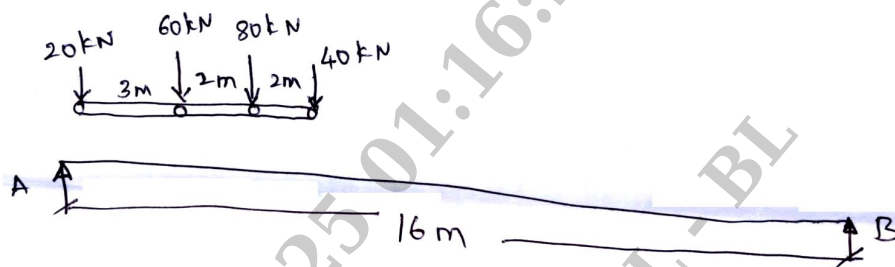

Fig.Q3
- 3 A simply supported girder of span 16 m is subjected to a set of moving loads as shown in Fig.Q3. Determine the absolute maximum shear force and bending moment developed in the beam.